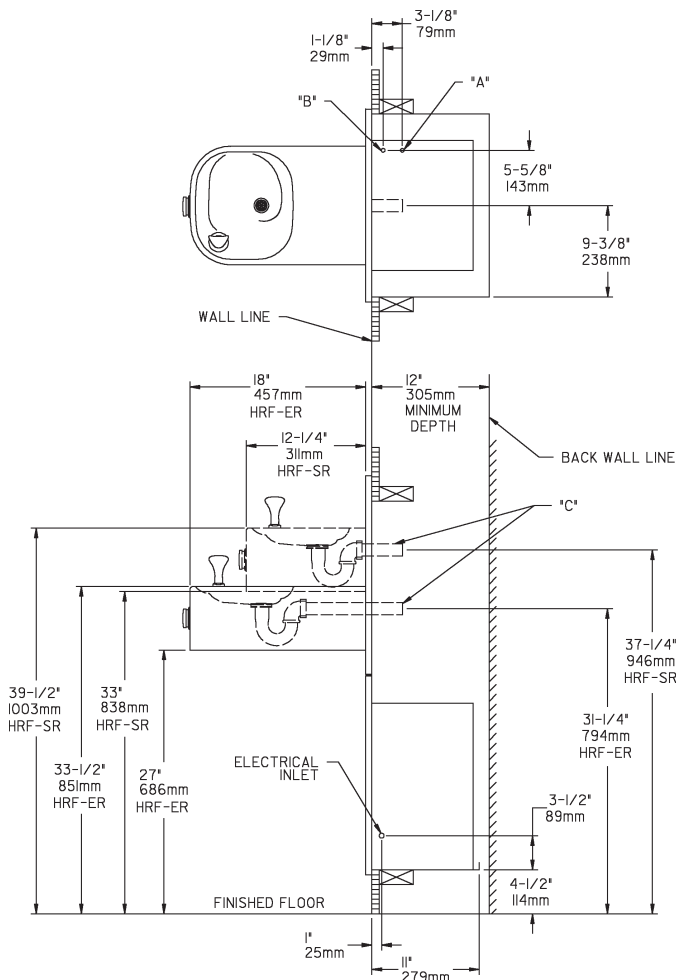

**Figure 9 – Rough-In Assembly
1. **Cut a rectangular wall opening** 18-3/4" (475 mm) W x 37-3/4" (959 mm) H and 4-1/2" (114 mm) above the floor line (see Figure 9). The dimensions are required to obtain proper rim and bubbler heights for compliance with ANSI standard A117.1.